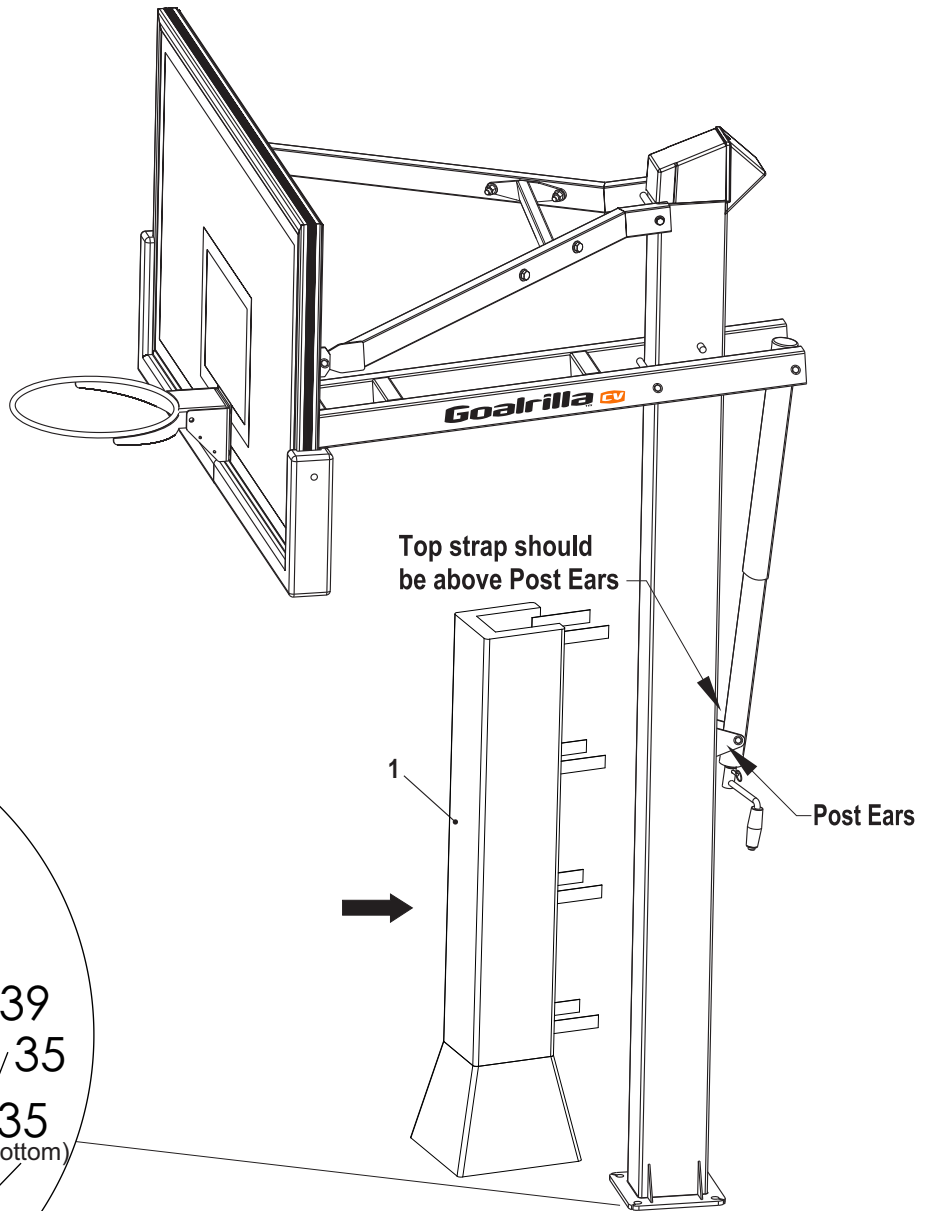

Figure 16
35. Secure Post Pad (#1) to front of pole by wrapping straps around the back pole and sticking to velcro on opposite side of Pad. Top Post Pad straps should be above Post Ears. See **Figure 16**.